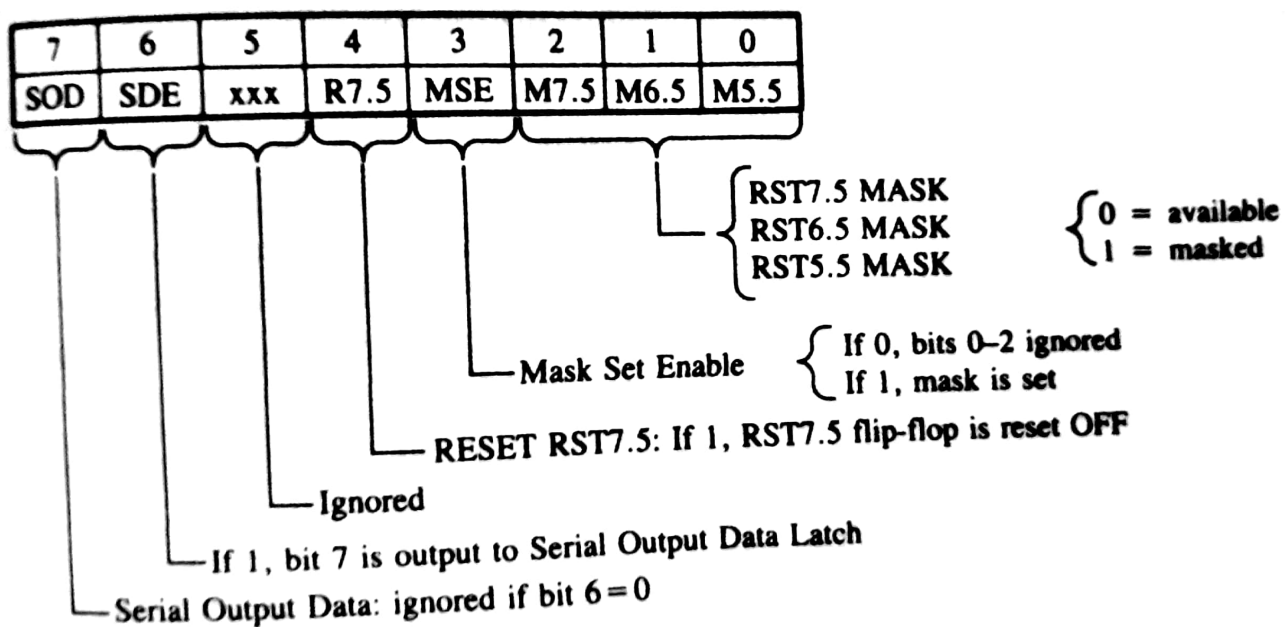

FIGURE 12.6
Instruction SIM: Set Interrupt Mask. This is a 1-byte instruction and can be used for three different functions (Figure 12.6).
- The second function is to reset RST 7.5 flip-flop (Figure 12.6). Bit D_4 is additional control for RST 7.5. If $D_4 = 1$, RST 7.5 is reset. This is used to override (or ignore) RST 7.5 without servicing it.